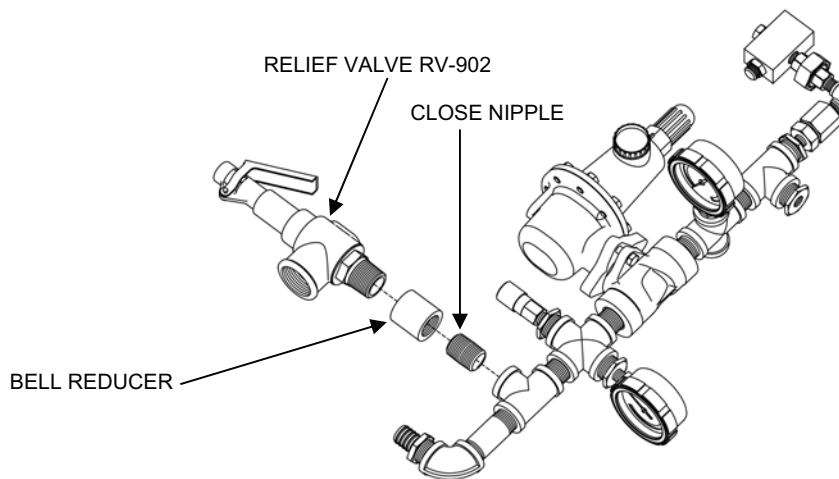

Figure 19. Relief Valve RV-902.
3. Replace Relief Valve RV-902 as follows (see Figure 19):
6. Tighten the relief valve in the position shown in Figure 19.